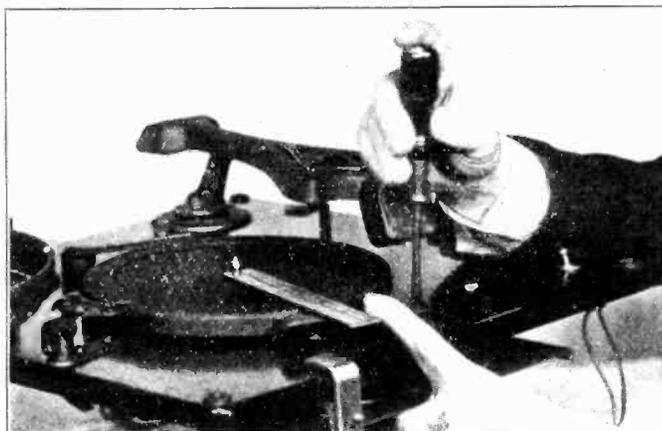

Figure 12—Adjusting Horizontal Position of Elevator Pads
- (a) *Improper Horizontal Adjustment of Elevator Pads*—The elevator pads 13, Figure 1, should be so adjusted that the inside of the pad flange is $5\frac{1}{8}$ " from the nearest side of the turntable spindle. Loosen the screw on top of the elevator shaft, move the pad to its correct position as shown in Figure 12, holding both the pad and the elevator shaft in position,